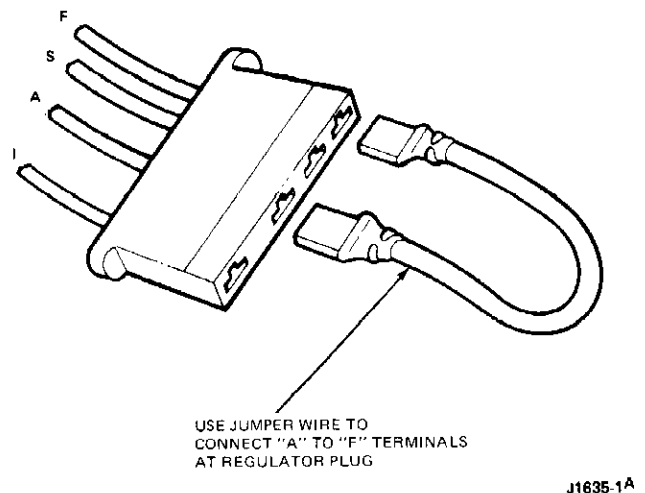

FIG. 3 Regulator Plug Jumper Wire Connections
2. If ohmmeter indicates more than 3 ohms connect a jumper wire from the A to F terminals of the plug (Fig. 3) and repeat the Load Test. If voltmeter now indicates more than 1/2 volt above base voltage, the regulator or wiring is defective. Make the regulator I and S circuits Tests.
1. Disconnect the regulator wiring plug and install a jumper wire between the A and F terminals (Fig. 3).